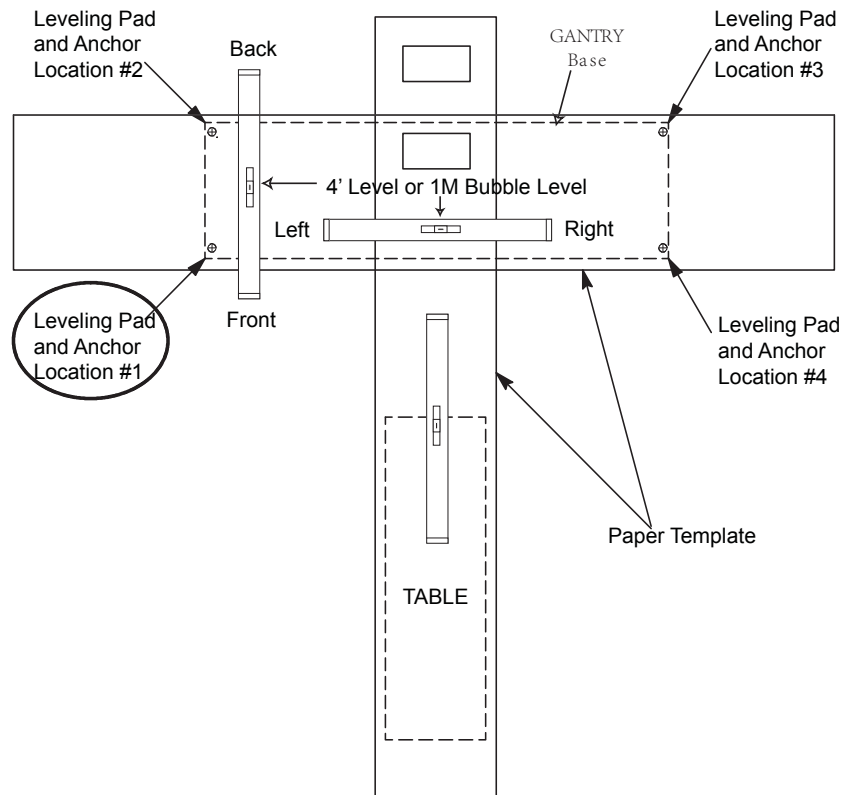

Figure 2-1 Hole Locations
- 4.) Check the level of the floor (See Figure 2-1) across the templates. This should be measured on the template over the table/gantry area, as shown in Figure 2-1 below.